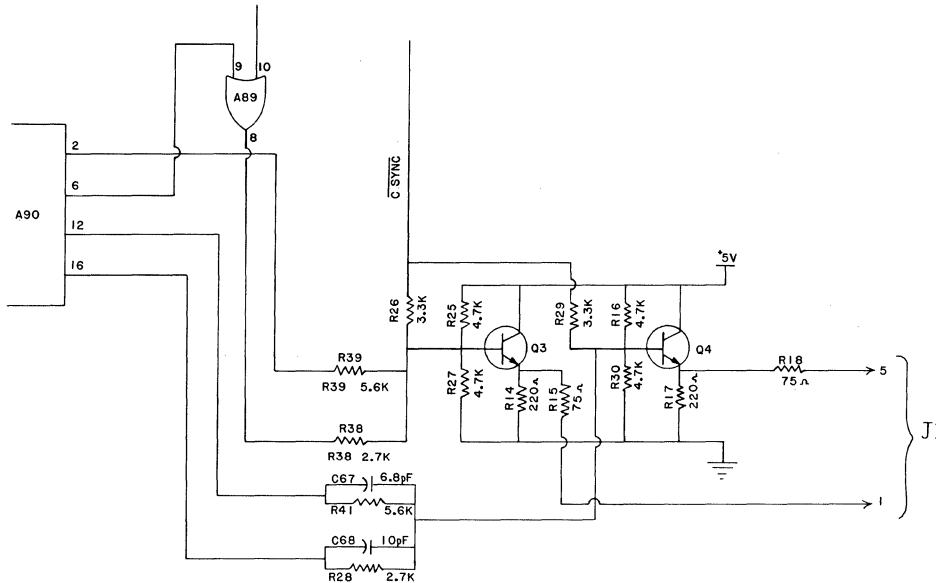

Figure 2. Modifying the RGB-GRAPH for two 2 bit DACs
A) Modifying the RGB-GRAPH for two 2 bit outputs (Fig. 2):